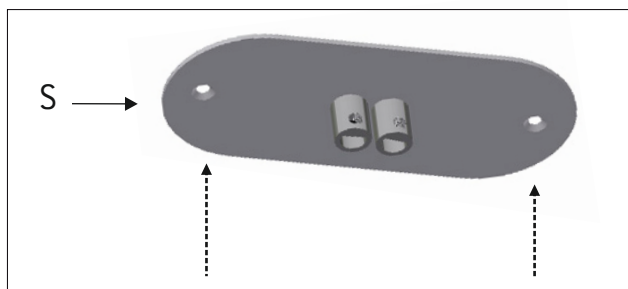

Figure 18
18 - Place the mounting bracket (S) on the ceiling and drill the holes to secure it. Don't install the mounting bracket yet. Figure 18.